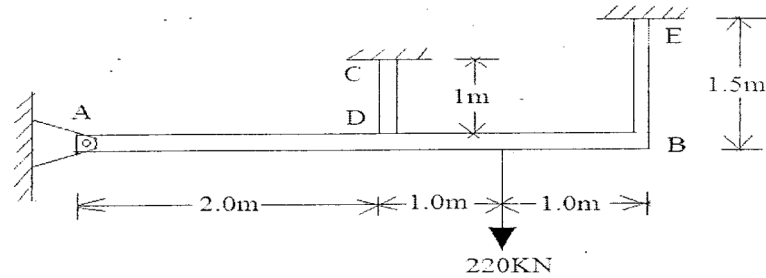

Fig.1
2. The bar AB is considered to be absolutely rigid and is horizontal before a load of 220kN is applied, as shown in Fig.1. The connections at A is a pin, and AB is supported by steel rod EB and the copper rod CD. The length of CD is 1.0m and of EB is 1.50m. The cross-sectional area of CD is  $500\text{mm}^2$  and that of EB  $300\text{mm}^2$ . Determine the stress in each of the vertical rods and the elongation of the steel. Neglect the weight of AB. Take  $E = 1.2 \times 10^5 \text{MPa}$  for copper and for steel  $E = 2 \times 10^5 \text{MPa}$ .